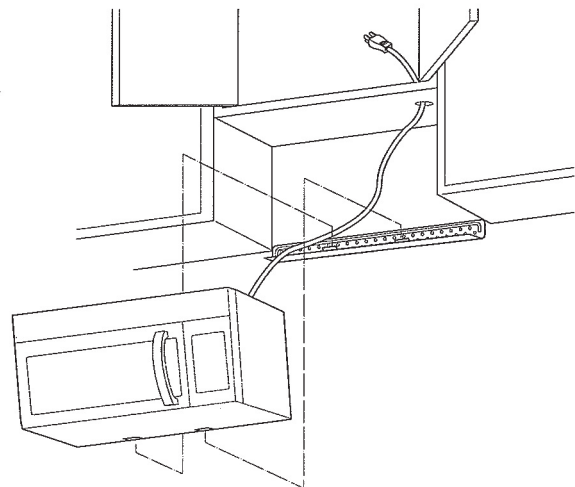

Figure 15
3. Position the Mounting Plate with the Toggle Bolts attached at the wall location and insert Toggle Nuts and Bolts through the holes in the wall with the Toggle Nuts closed. Figure 15. Use Wood Screws to attach the Mounting Plate to studs.
2. Install the oven by tilting it forward and sliding it onto the tabs of the Mounting Plate. Rotate the oven up so it rests against the wall. See Figure 15.